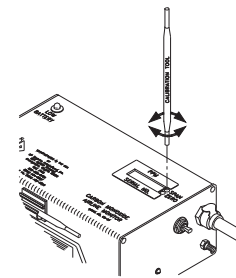

Figure 15
5. Using the adjustment tool attached to the side of the CO monitor, adjust “span” pot adjustment screw (clockwise to increase, counter-clockwise to decrease) until the digital display reads the same concentration (ppm) as printed on the calibration gas cylinder (Figure 15).